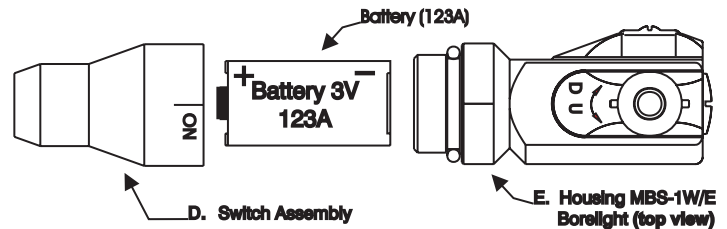

FIGURE 2-1
2. Install the single 123A lithium battery in the direction shown on the housing. **Note: The negative terminal is inserted into the Laser Housing with the positive terminal facing the Switch Assembly.** See Figure 2-1 below.